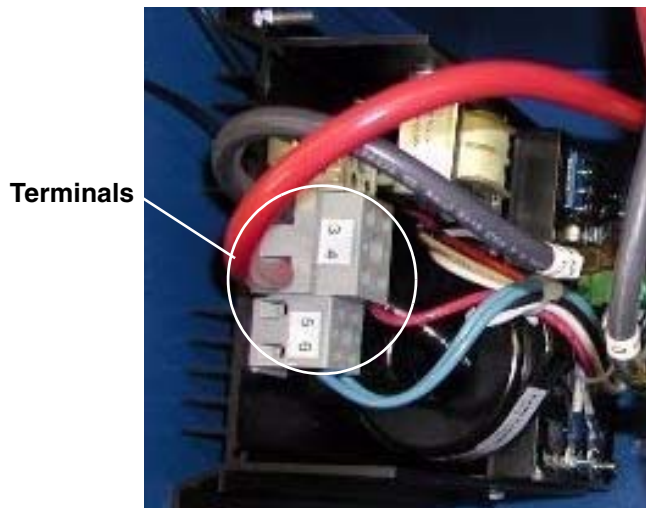
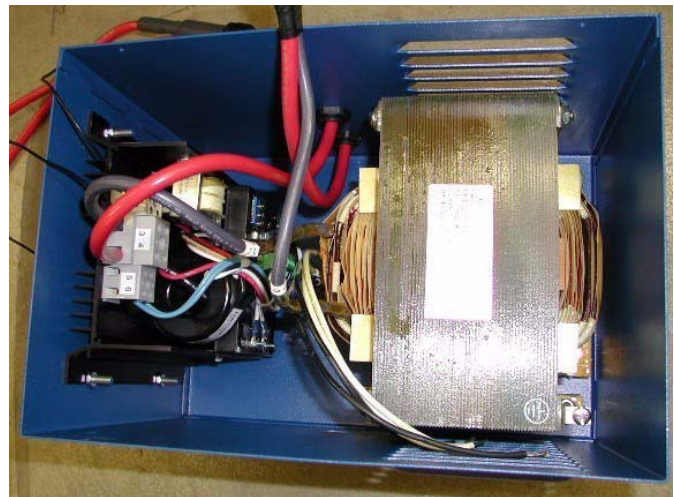

FIG. 6: AmpLok[®] Controller (HV-20/35)
FIG. 7: HV-20/35 Before Conversion
2. Remove AmpLok[®] controller. See FIG. 6 and FIG. 7.